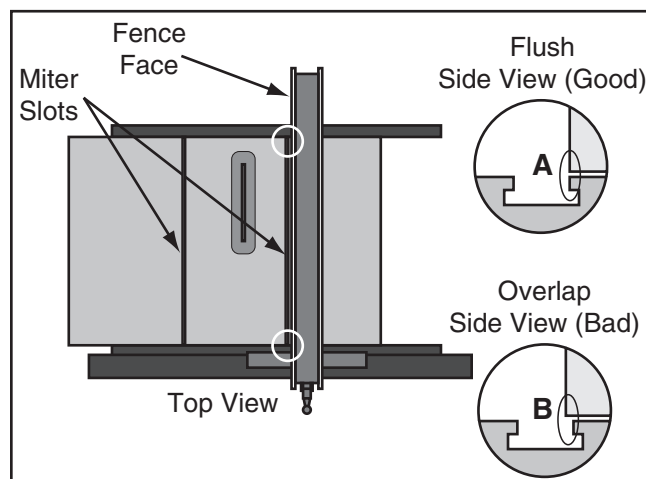

Figure 118. Example of aligning fence to miter slot.
5. Slide fence up against right-hand edge of miter slot, as shown in **Figure 118**, and lock it in place.